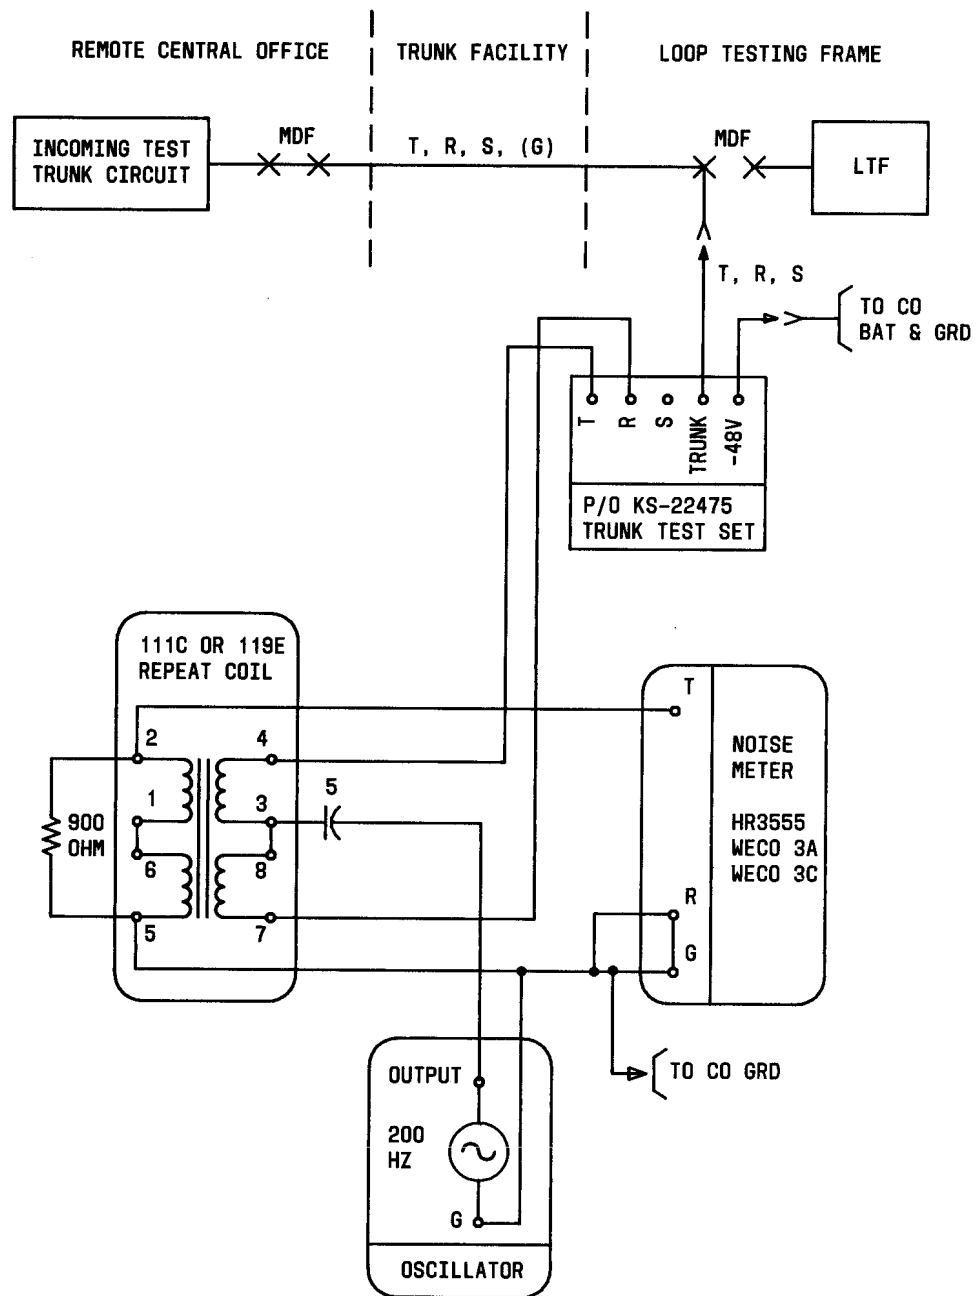

Fig. 18—Longitudinal Balance—Connections
H. Longitudinal Balance (all test trunks) (Fig. 18).
13	Connect repeat coil— Strap the windings of a WECO 111C or 119E repeat coil as shown in Fig. 18 (Pins 1 and 6, 3 and 8).
14	Remove oscillator output from noise meter and reconnect to the repeat coil as shown in Fig. 18 (through a 0.5 μ F coupling capacitor).
15	Connect the oscillator ground terminal to the repeat coil as shown in Fig. 18.
16	Connect a 900-ohm resistor across repeat coil terminals as shown in Fig. 18.
20	Connect the repeat coil to the cable pair at the LTF end as shown in Fig. 18.